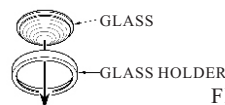

FIG. 18
5. Assemble the glass and glass holder.(see fig.18)